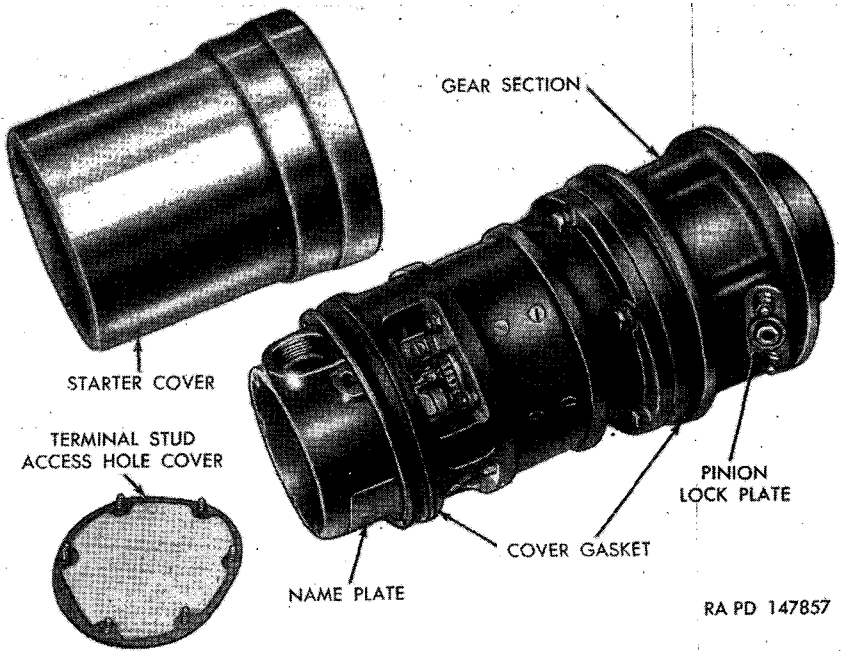

Figure 177. Jack and Heintz starter with cover removed.
- (2) *Jack and Heintz*. Remove top deck (par. 158*b*) and power plant (par. 159). Remove six screws from terminal stud access hole cover (fig. 177) and remove cover. Remove cotter pin and connector nut within starter housing. Pull terminal off stud. Remove external cable connector nut and pull out cable and terminal. Remove starter vent line (fig. 175). Push down on pinion lock plate (fig. 177) to release pinion gear, turn pinion gear (fig. 175) counterclockwise, and remove starter.